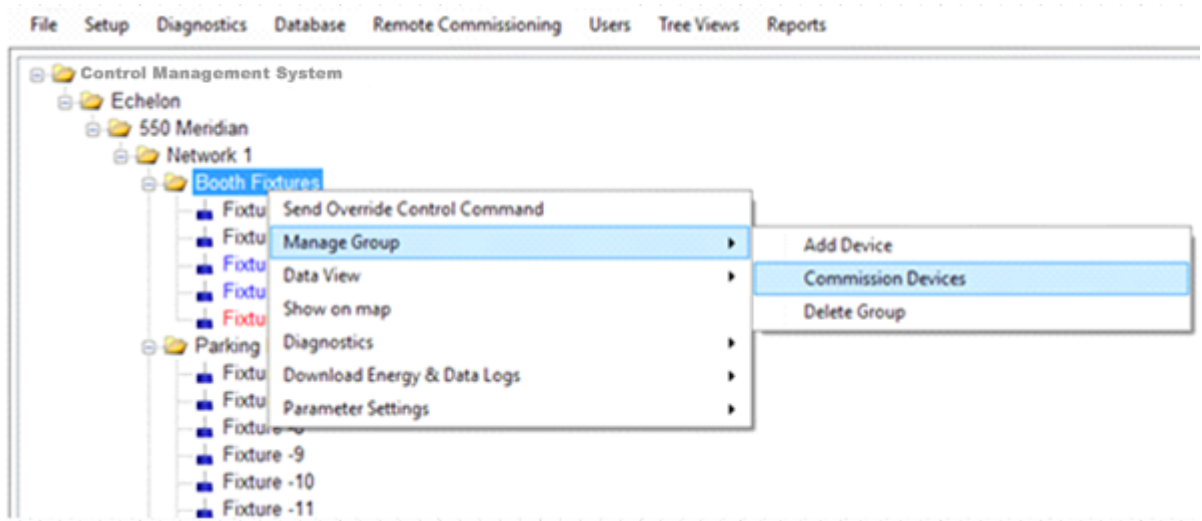

Figure 35. Devices Ready for Commissioning
1. Right click at the Network Level, choose Manage Group, and choose Commission Devices. This is shown in Figure 35.